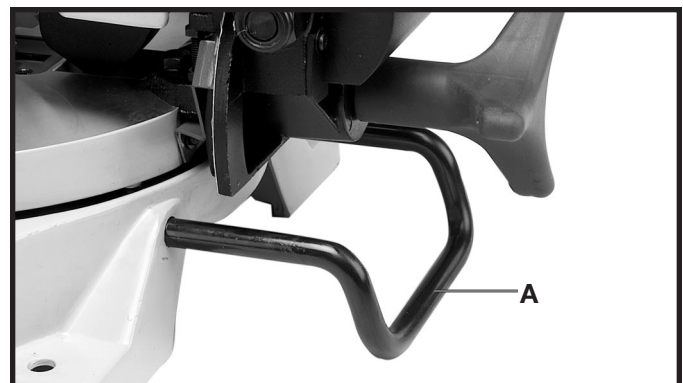

Fig. 20
A rear support bar (A) Fig. 20 is provided to prevent the machine from tipping to the rear when the cuttinghead is returned to the up position. For maximum support the bar (A) should be pulled out as far as possible.